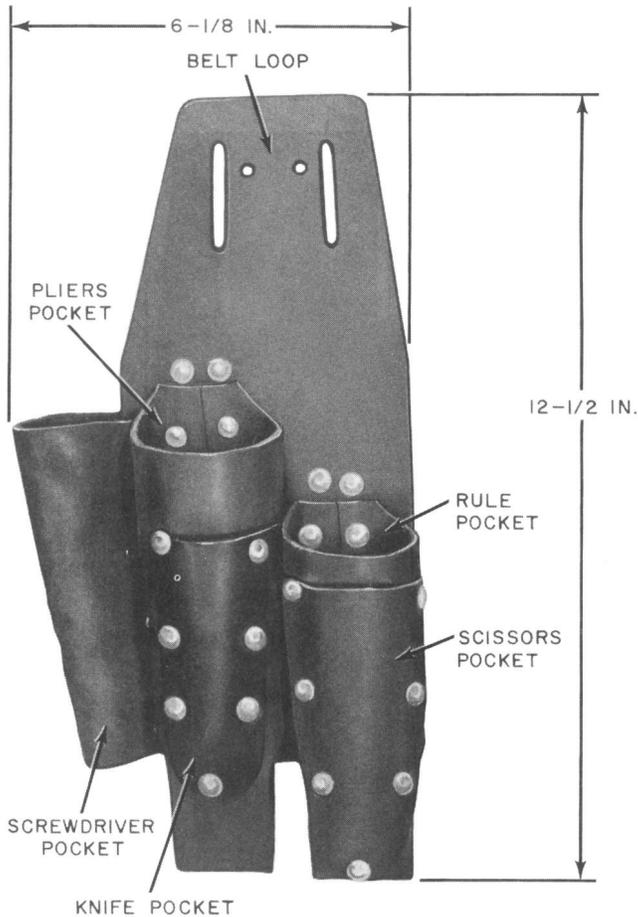

Fig. 2—F Holster (Right)
3.01 The F Holster shown in Fig. 2 is a *right* holster for use with a *right* body belt. *Left* holsters for use with *left* body belts are also